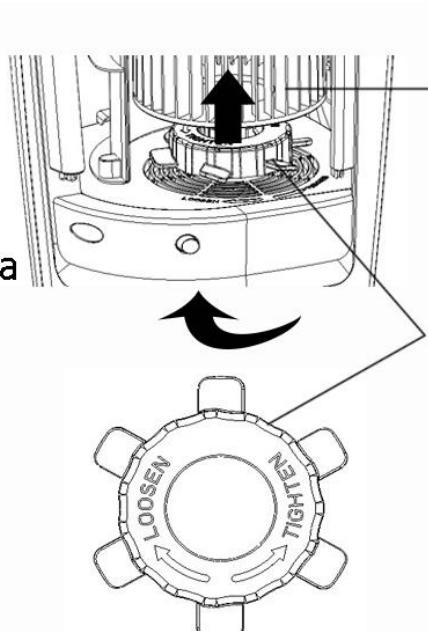

Fig. 2
- 2) Hold the wind wheel (b), at the same time, rotate the nut (c) in the “LOOSEN” direction and then lift the wind wheel to take it out (fig. 2)